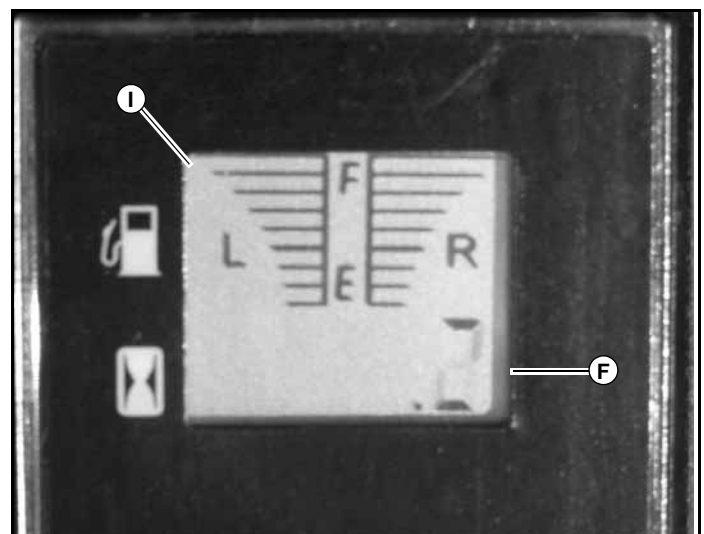

Figure 3-2
F. Electronic hour meter (Figure 3-1 & Figure 3-2) — registers 1/10 hour increments up to 9,999.9 total hours. Connected to the ignition switch, the meter records the accumulative time while the ignition key is switched to the RUN position.
I. Fuel tank gauge (Figure 3-1 & Figure 3-2) — this gauge shows the fuel level for each fuel tank. The right gauge indicates the fuel in the right tank and the left gauge indicates the fuel level in the left fuel tank.